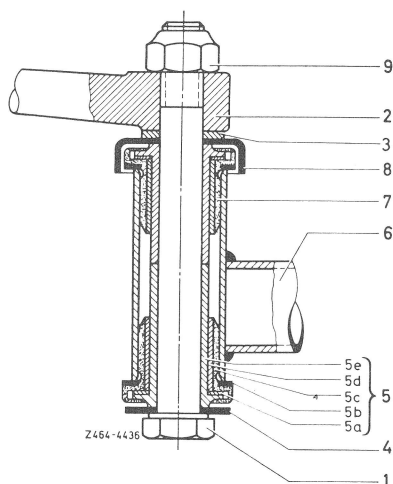

Fig. 2
6 Check rubber slide bearing (5 and 7) in trunnion bearing (6) for wear and replace, if required (Fig. 2).
11 Then place washer (3) and sealing washer (4) on hex. screw (1) (Fig. 2).
14 If a larger difference in height is measured, unscrew hex. screw (1) and remove washer (3), Part No. 115 463 00 52, between intermediate steering arm (2) and dust cap (8), or add a second washer (Fig. 2).